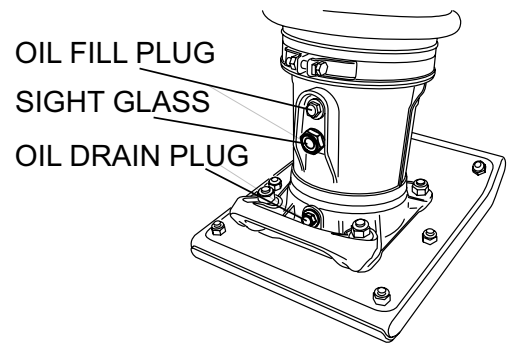

Figure 14. Oil Drain Plug
- Remove the oil drain plug on foot housing (Figure 14) and drain the oil. Refill with approximately 1.7 pint (800 cc)